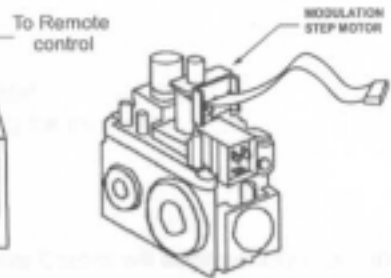

Figure 2
- 3 Plug the step motor cable to the receiver. See Figure 2.